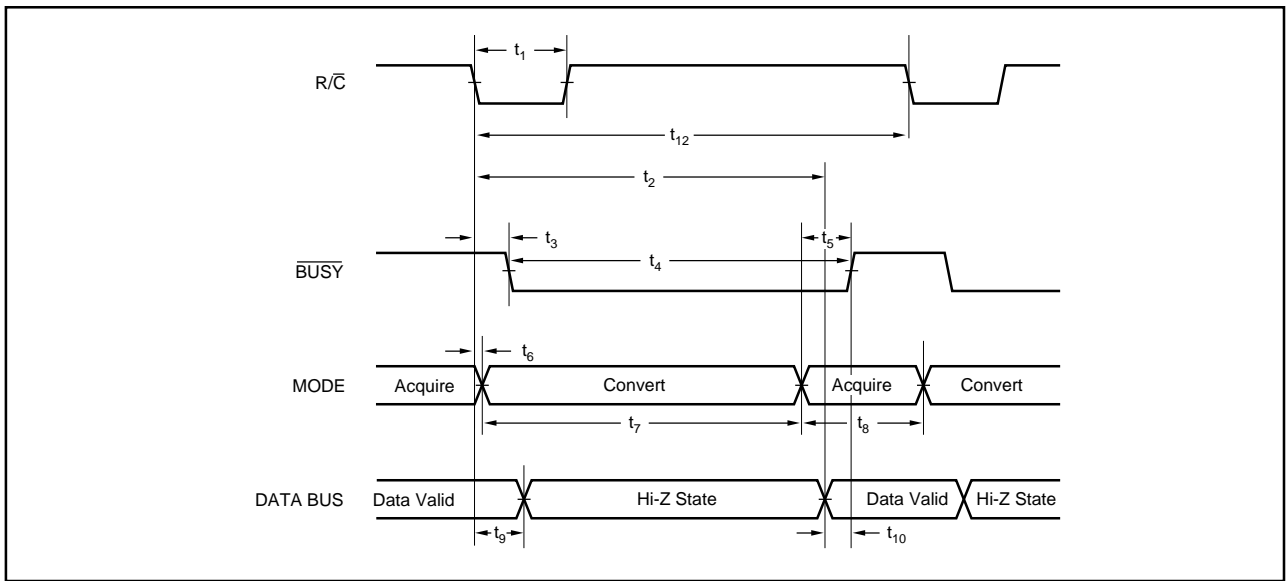

FIGURE 2. Conversion Timing with Outputs Enabled After Conversion (\overline{CS} Tied Low).
The ADS7819 will begin tracking the input signal at the end of the conversion. Allowing 1.25 μ s between convert commands assures accurate acquisition of a new signal. Refer to Table I for a summary of \overline{CS} , $\overline{R/C}$, and \overline{BUSY} states and Figures 2 and 3 for timing parameters.
After the conversion is completed and the output registers have been updated, \overline{BUSY} (pin 25) will go HIGH. Valid data from the most recent conversion will be available on D11-D0 (pins 6-13 and 15-18). \overline{BUSY} going HIGH can be used to latch the data. Refer to Table III and Figures 2 and 3.
The number of control lines can be reduced by tying \overline{CS} LOW while using R/\overline{C} to initiate conversions and activate the output mode of the converter. See Figure 2.
8. CORNER LEADS (1, 14, 15, AND 28) MAY BE CONFIGURED AS SHOWN IN FIGURE 2.